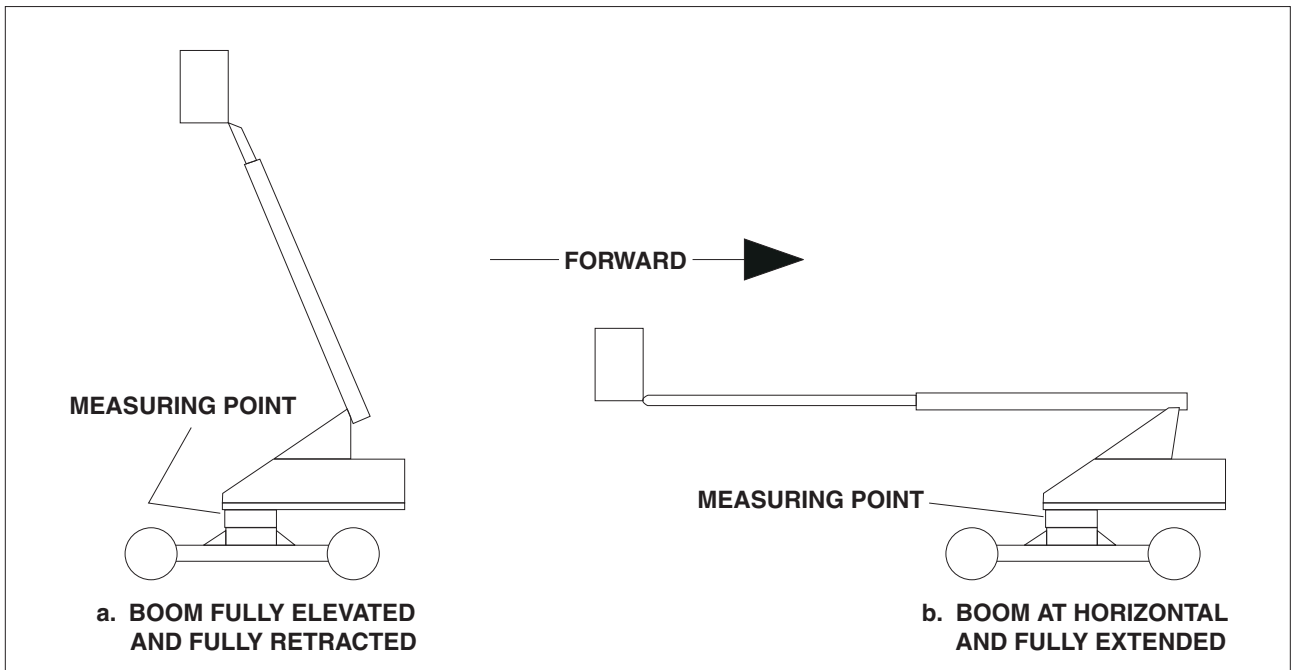

Figure 2-18. Swing Bearing Tolerance Boom Placement
1. From the underside of the machine, at rear center, with the boom fully elevated and fully retracted (Figure 2-18., Swing Bearing Tolerance Boom Placement), measure and record the distance between the swing bearing and the frame using a magnetic base dial indicator. (Figure 2-18., Swing Bearing Tolerance Boom Placement)
2. At the same point, with the boom at horizontal and extended until red marking band on mid section is exposed, measure and record the distance between the swing bearing and frame using a magnetic base dial indicator. (Figure 2-18., Swing Bearing Tolerance Boom Placement)